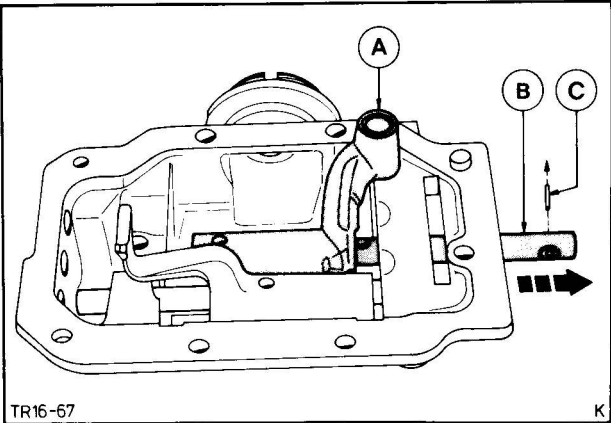

Fig. 118. Remove 3rd/4th gear selector rail
- 5. Remove 3rd/4th gear selector rail and selector fork carrier, Fig. 118.